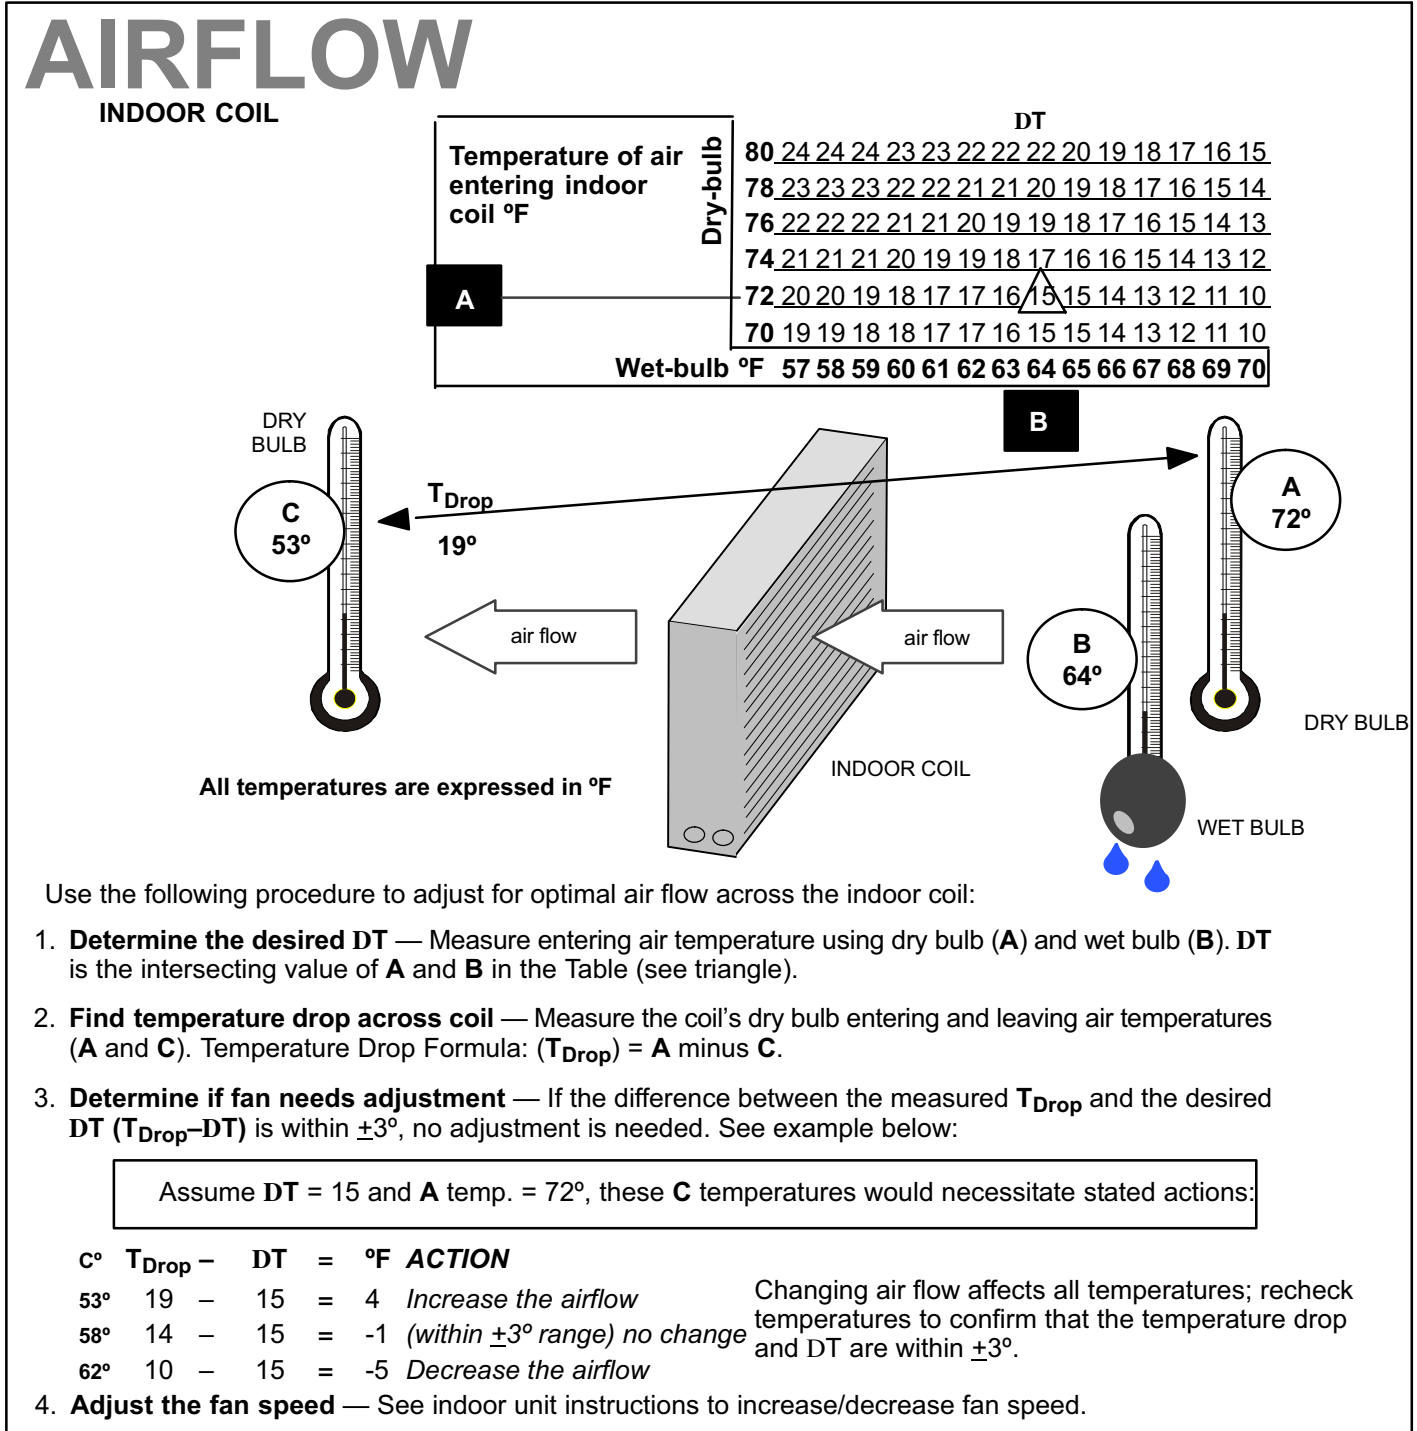

Figure 9. Checking Indoor Airflow over Evaporator Coil using Delta-T Chart
Check airflow using the Delta-T (DT) process using the illustration in Figure 9.